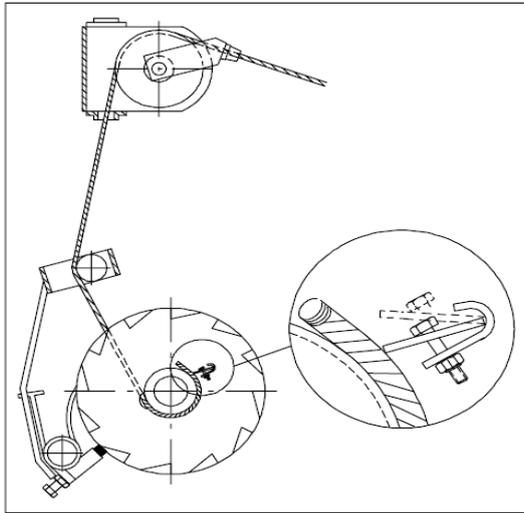

Fig. 3.
5. Pass the cable end through the hole in the drum plate, pull about 15 cm (6"), and insert under the wedge of the cable lock device. See fig. 3.